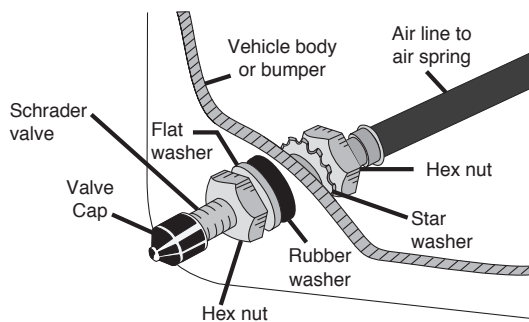

fig. 12
- Route the air line along the frame to the fitting on the air spring (Fig. 12). Keep AT LEAST 6" of clearance between the air line and the exhaust system. Avoid sharp bends and edges. Use zip ties to secure the air line to fixed points along the chassis. Be sure that the tie straps are tight, but do not pinch the air line. Leave at least 2" of slack to allow for any movement that might pull on the air line.